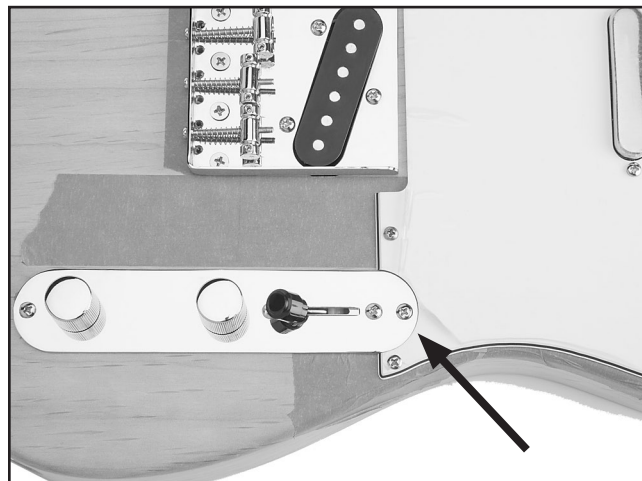

Figure 11. Control plate fits into pick guard.
5. Place the control plate on the body so it fits snugly into the curve on the pick guard as shown in **Figure 11**.